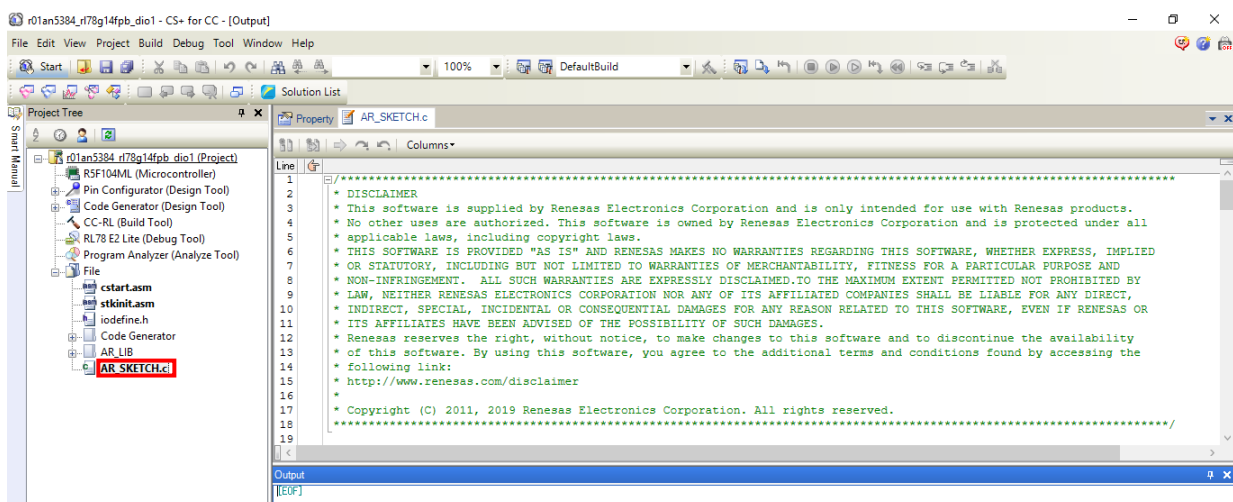

Figure 3.2 Screen after project startup (CS+)
When the username change in "(1) CS+ preparation tasks" is set correctly, as shown in Figure 3.2, "AR_SKETCH.c", which is the Arduino program (sketch) on project startup, is displayed at the bottom of the project tree, and the contents of "AR_SKETCH.c" are displayed.